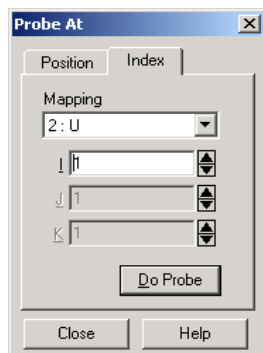

Figure 25-8. The Index page of the Probe At dialog for line plots.
2. Click Index to bring up the Index page of the Probe At dialog, shown in Figure 25-8